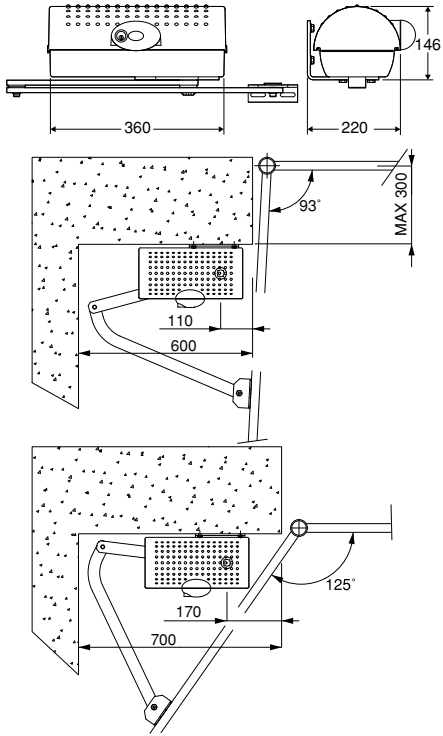
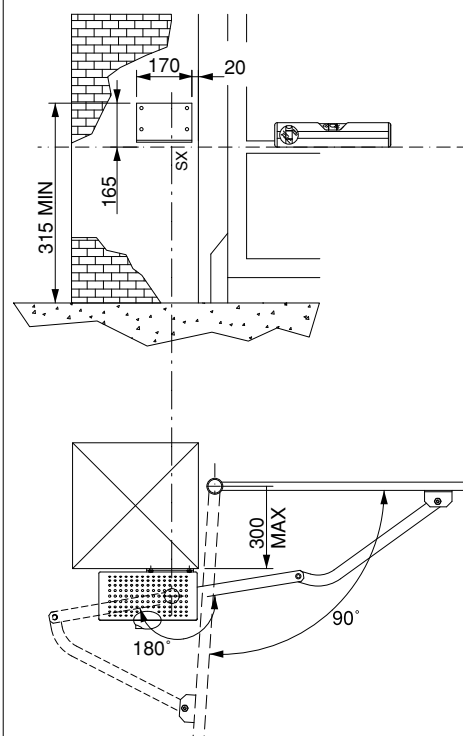

Fig. 2
Fig. 3
- The gate structure is sufficiently sturdy and rigid. The fixing position must be worked out according to the leaf structure. In any case, the manoeuvring arm must push against a reinforced leaf point (fig. 2).
**5) FIXING OF SUPPORTING PLATE (Fig.2)**
The controller is supplied complete with anchoring bracket and lever arm. Once the reinforcement point of the leaf has been identified with the gate closed, draw an imaginary horizontal line from the centre of the reinforcement point to the gate post (fig.2). Position the anchoring bracket according to the values given in fig. 2 for openings of up to 90° or in fig.3 for openings greater than 90° up to a maximum of 125°.